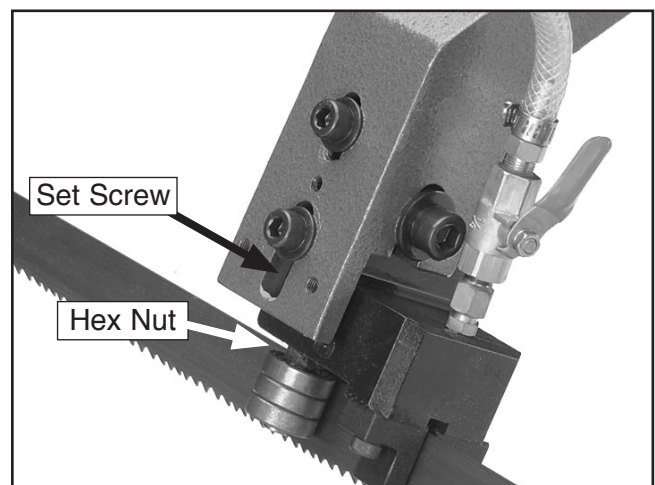

Figure 47. More blade guide adjustments.
6. Loosen the set screw in **Figure 47** to allow the eccentric bushing to turn.